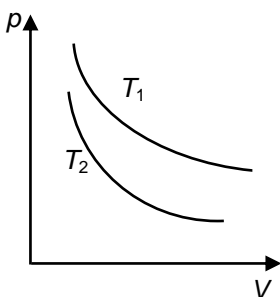

Fig. 5.9: Isotherms.
5. Fig. 5.9 shows two isothermal processes at temperatures T_1 and T_2 , respectively. By inspecting the curves, find out which of the two temperatures is higher.